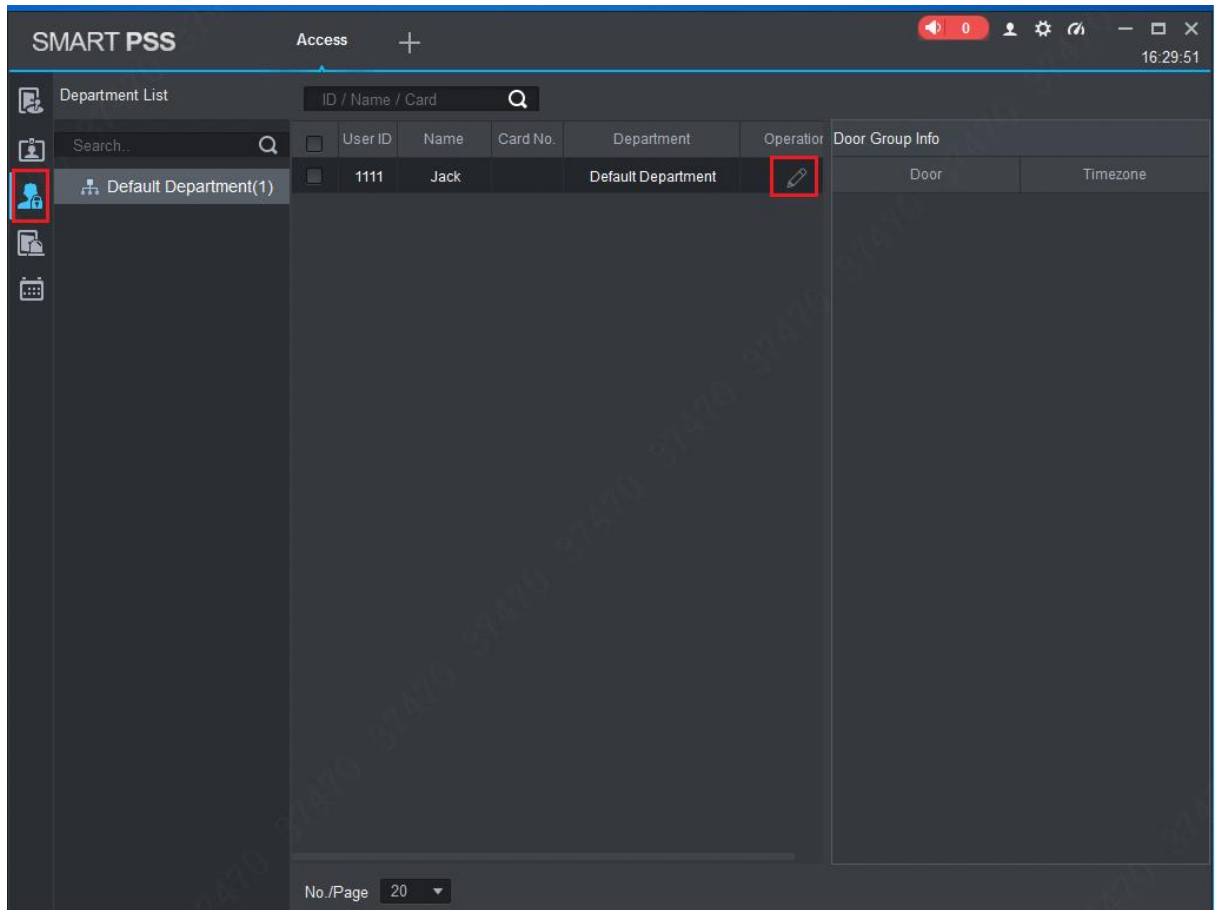

Figure 4-17
Step 1 In “Access” interface, click , and then click “User Right”, as shown in Figure 4-17.